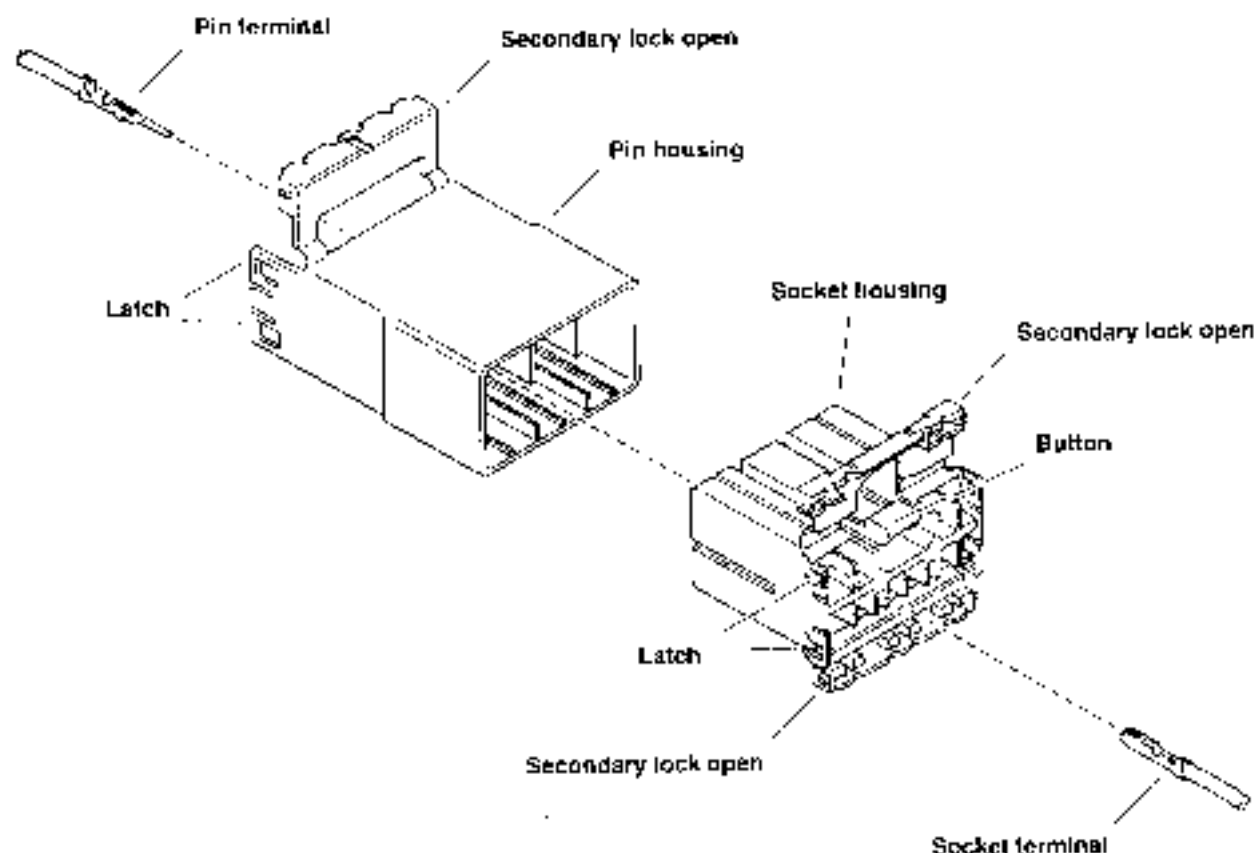

Figure B-1. 10-Place Amp Multilock Connector
5. See Figure B-1. With the flat edge against the terminal, insert the pick tool (Snap-On T600-3) into the cavity until it stops. Prol the end of the pick away from the terminal (locktab is inside housing) and gently tug on wire to pull terminal from chamber. Do not tug on the wire until the tang is released or the terminal will be difficult to remove. A "click" is heard if the tang is engaged but then